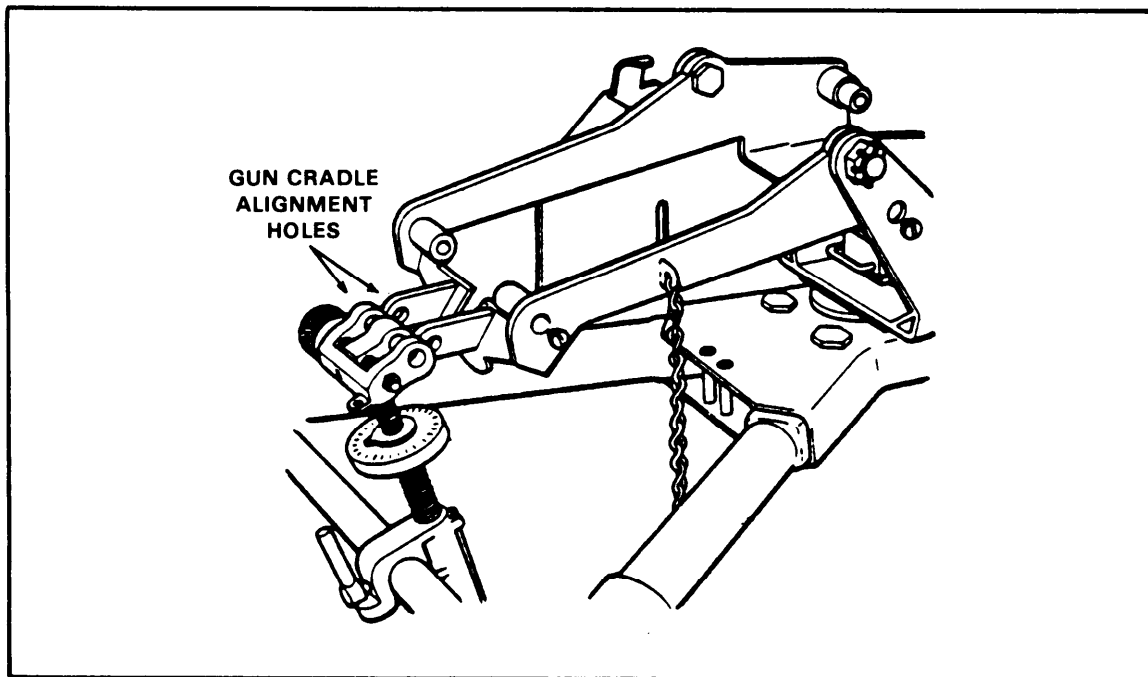

Figure 3-6. Alignment of gun cradle to T&E.
(4) Align the holes in the upper elevating screw yoke of the T&E mechanism with the rear hols in the gun cradle (Figure 3-6).